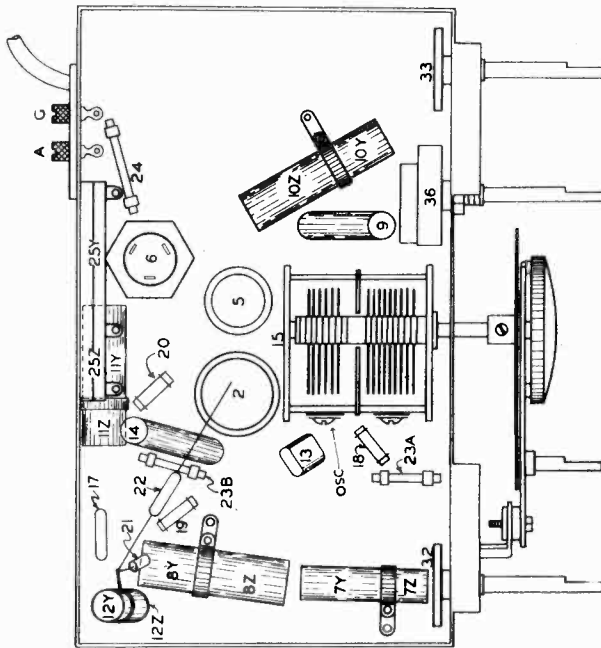

Fig. 3. Bottom View 525 and 505
- Adjust the trimmer on the "Osc." section of the tuning condenser gang for maximum output. (Fig. 3).